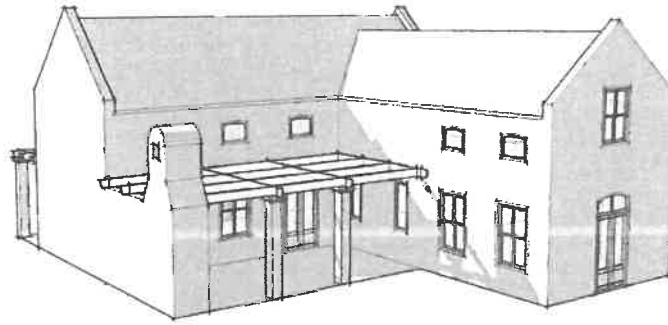

Figure 6: Core building with double pitched roof and gable end walls
- a) Only double pitched roofs, with or without gable end walls on the main dwelling (core building) and outbuildings may be used and are prescribed (Refer to Figure 6).